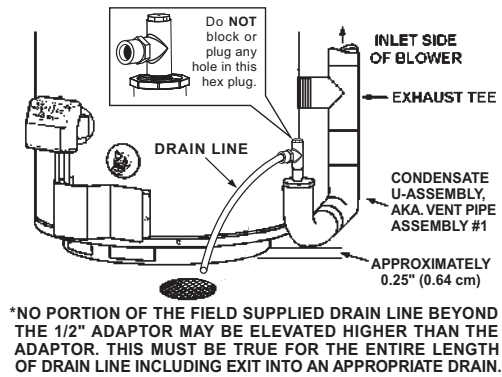
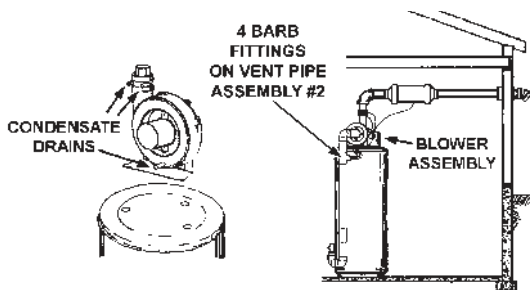

FIGURE 16.
FIGURE 17.
Assemble Vent Pipe Assemblies #1, #2 and #3 (See Figure 1) prior to cementing. The preferred orientation of Vent Pipe Assembly #1 (Condensate U-Assembly) is shown in Figure 16. However this assembly may be rotated to a different orientation as needed for the specific installation requirements. Note the rotational orientation of each part by marking a line several inches long across the joints. The long tube of Vent Pipe Assembly #2 should be approximately vertical. If it is found that either of the two pieces of pipe in Vent Pipe Assembly #2 are too long for proper fit-up, then remove as little material as possible to improve the fit-up. Keep in mind that the pipes will insert slightly further into the elbows when cement is applied as it acts as a lubricating agent. The vertical distance from the bottom of the Condensate U-Assembly to the floor that supports the water heater should be approximately 0.25" (0.64 cm), see Figure 16. Disassemble the parts and cement back together using the alignment marks. After the cement dries, attach the assembly to the blower and the water heater exhaust using the supplied rubber boots and hose clamps.
3. The blower discharge adapter is made to accept only straight sections of 2" pipe. To start, a minimum of 2 inches (5.1 cm) of 2" pipe must be attached to the blower discharge, see Figure 17.
4. There will be some installations where condensate will be formed in the horizontal runs of the vent system. This condensate will run into the condensate boot attached to the blower and out the fitting. The water heater is shipped with condensate hose that attaches to the fitting on the condensate boot. No other Tee or fitting is required. See Figures 17, 20 and 21.
This water heater is a condensing unit and requires a drain to be located in close proximity to allow condensate to drain safely. One hose from blower housing, two flexible hoses from blower outlet adaptor, along with another flexible hose from VAA if installed, run to barb fittings on vent pipe assembly #2. Hose is clamped by rubber clips and flexible hoses by a clamp on jacket top cover. See Figure 17. Condensate drains from the unit at the exhaust tee located at the bottom of the unit (see figure 16). Condensate from this water heater is mildly acidic. Please note that some local codes require that condensate is treated by using a pH neutralizing filter prior to disposal.
NOTE: It is important that the field supplied drain lines beyond the 1/2" adaptor of vent pipe assembly #1 should be installed continuously tilted downward toward an appropriate drain. See Figure 16. If these instructions are not followed or if condensate drain line is blocked, water will spill from condensate trap. Do not block the holes in the hex plug on top of a small tee in vent pipe assembly #1. As with every water heater installation, a drain pan should be used to prevent water damage to surrounding area. If necessary, a condensate pump with an incorporated reservoir may be used to pump water to an appropriate drain. To avoid condensate spillage, select a pump with an overflow switch.
Condensate is likely to form in the venting system attached to this water heater. The vent pipe should be sloped downward away from the blower assembly (not less than 1/8" (3.2 mm) nor greater than 1/2" (12.7 mm) per foot (30 cm) maximum). If the vent piping is vented level or sloped upwards away from the blower assembly, then adequate means for draining and disposing of the condensate needs to be made by the installer. Two 3/8" condensate hoses should be connected to the built in drain ports of blower outlet adaptor. If a VAA is installed, a 3/8" condensate hose should be connected to the barb fitting on it; otherwise the unused barb fitting on vent pipe assembly #2 should be plugged with one of the break-away plugs. See Figure 17.
3. Condensate drains from three locations on blower assembly. See Figure 17. One flexible hose runs from bottom of blower housing; two run from the ports of rubber connector at the outlet of blower. All these three condensate hoses are connected to barb fittings at vent pipe assembly #2. The hose from bottom of blower housing is clamped by two clamps and the two hoses from rubber connector are harnessed by another clamp. Make sure there is no kink or twist.